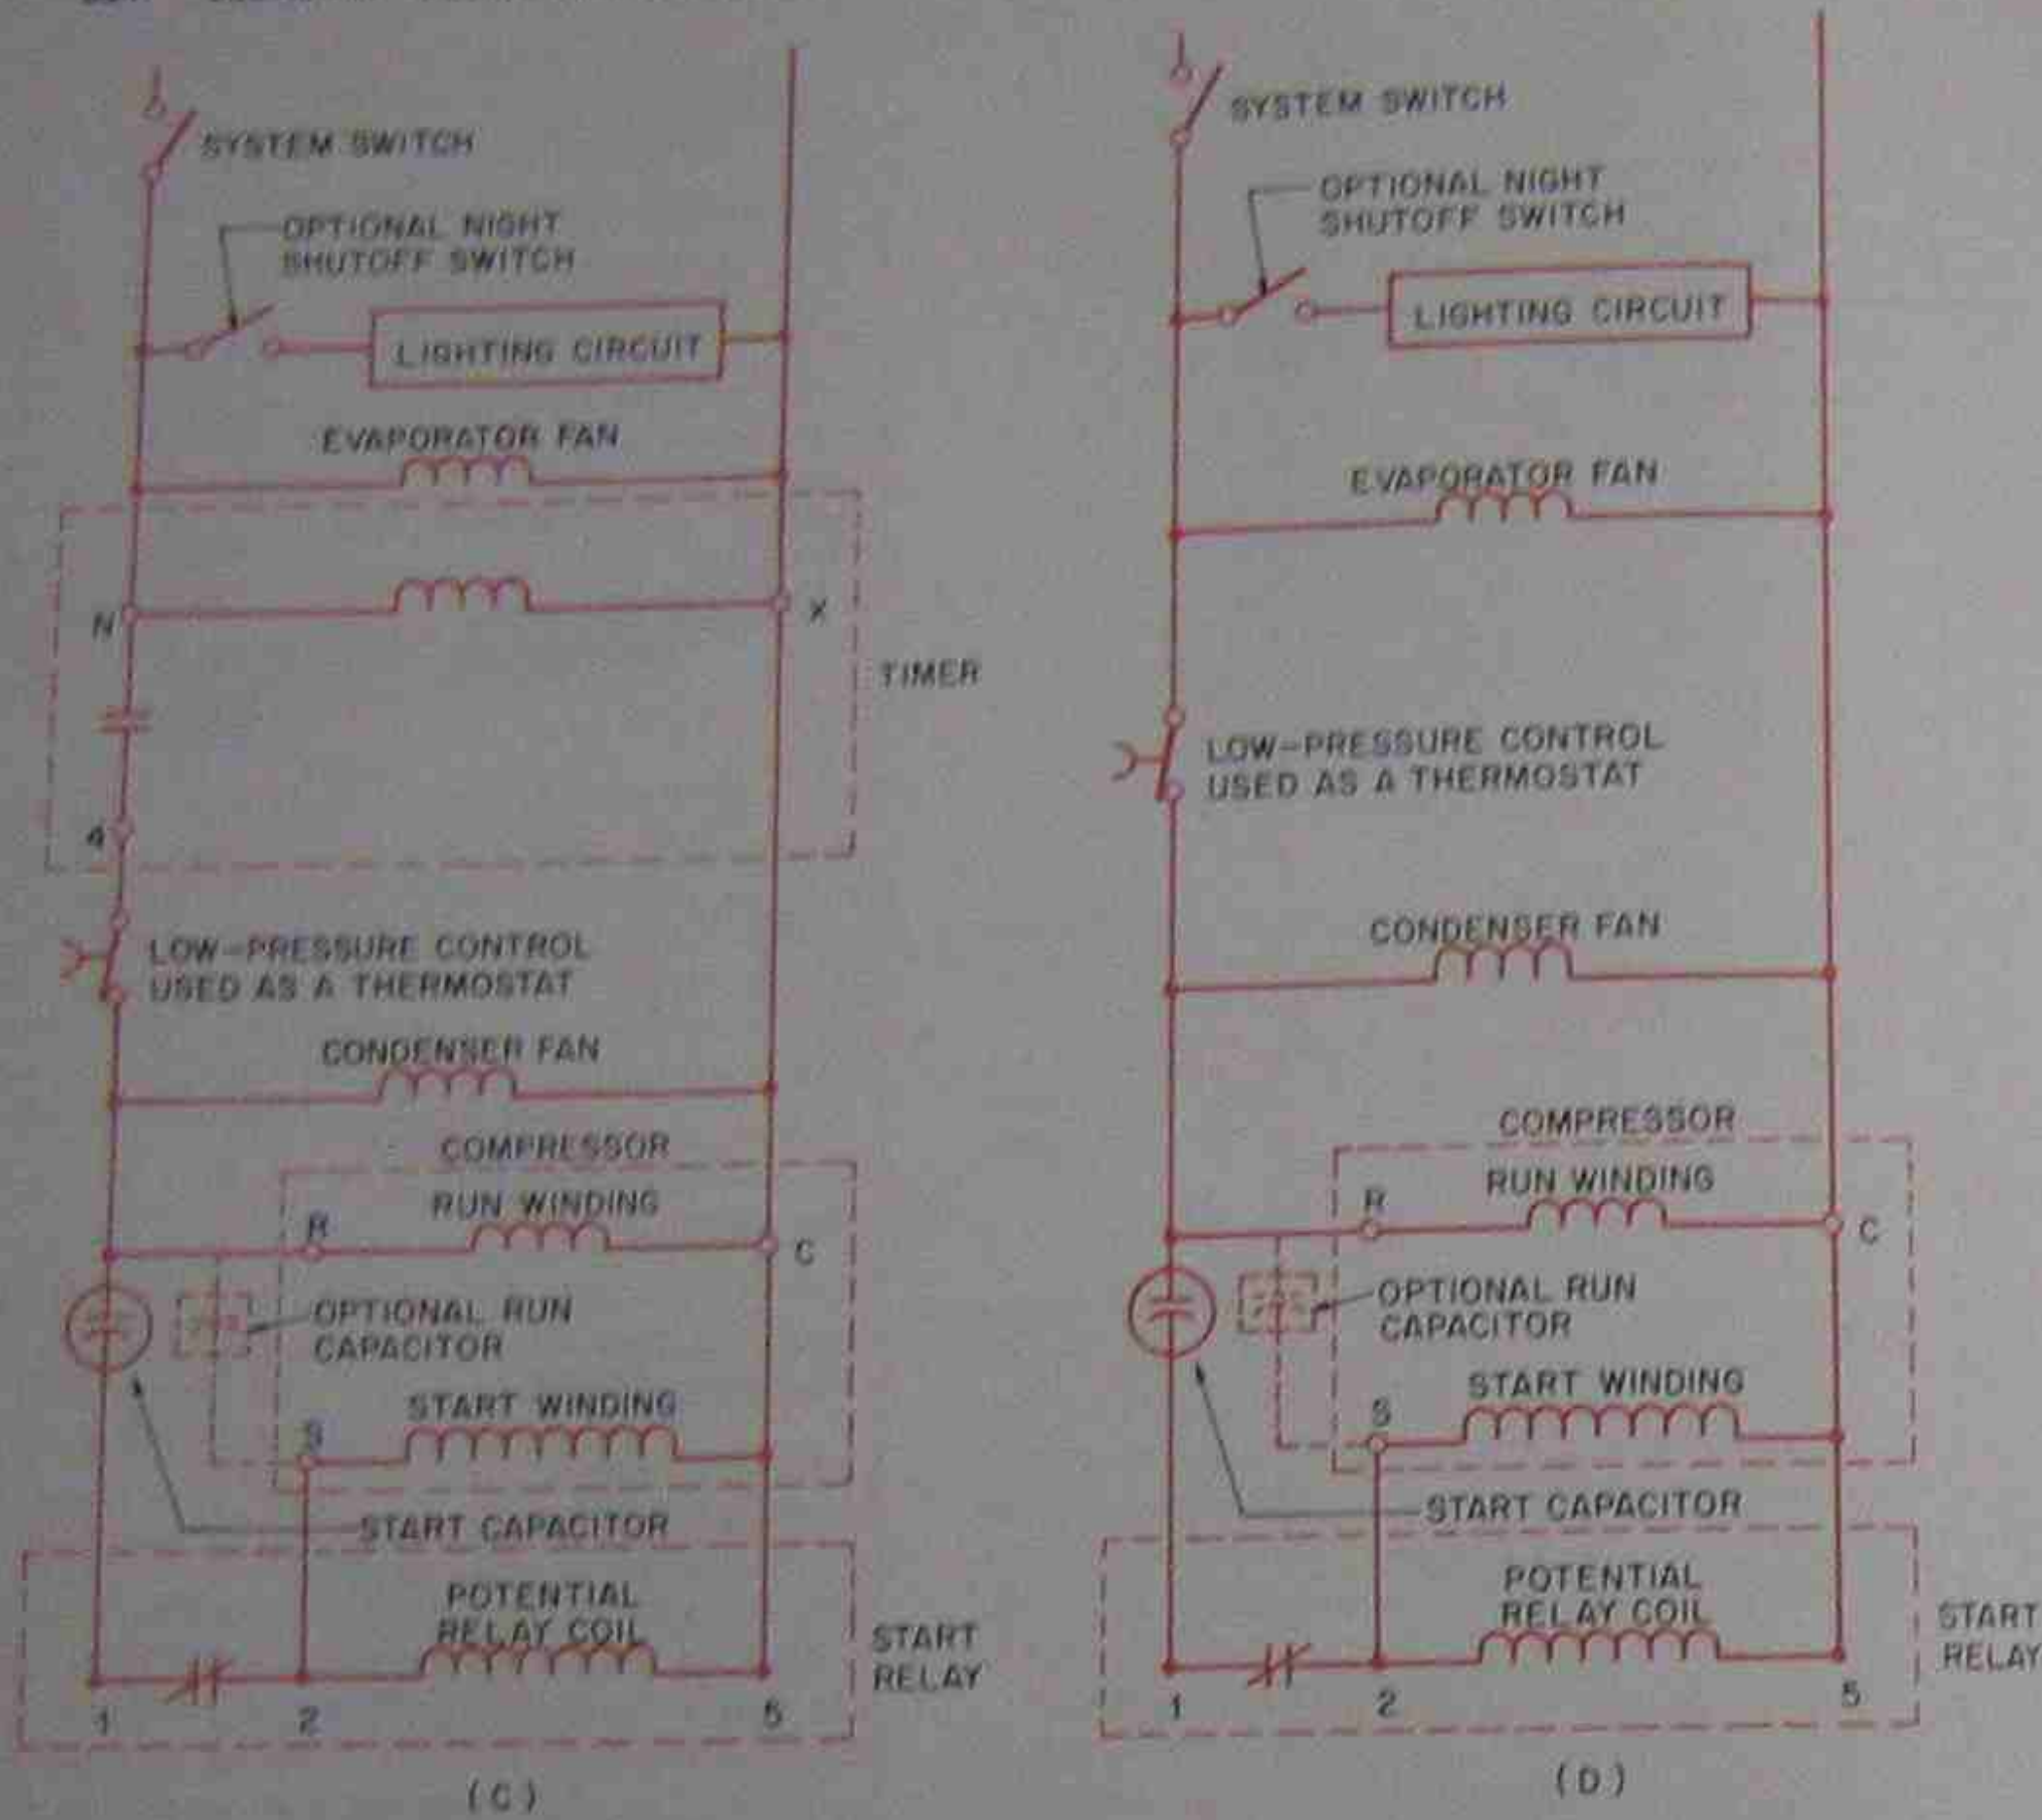

Figure 24-4. (Continued)
Figure 24-4. Wiring diagrams for self-contained reach-in boxes. (A) Low-temperature with hot gas defrost. (B) Low-temperature with electric defrost. (C) Medium- or high-temperature with planned off-cycle defrost. (D) Medium- or high-temperature with random defrost.